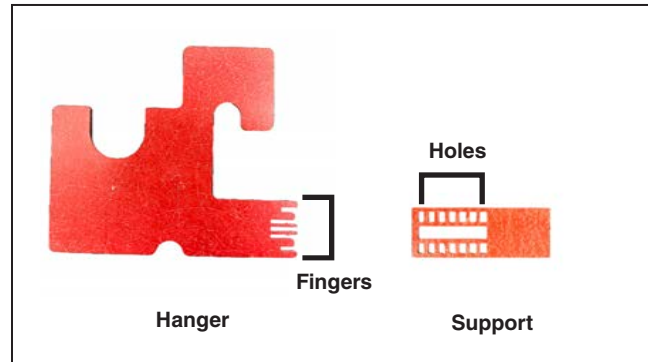

Figure 40. The hanger and support.
**STEP 1.** The hanger and support, when properly assembled, will create a 90-degree angle as it rests against the transformer. See Figure 40 and Figure 41. Hold the hanger on the upper low-voltage terminal.